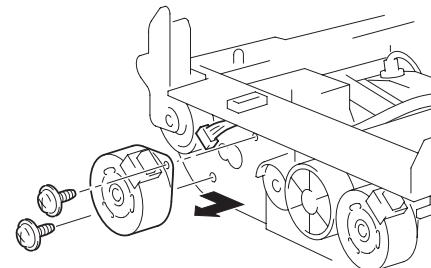

Figure 4-53. Removing the Duplex Unit Inversion Motor
3. Disconnect the one connector. (See Figure 4-53)